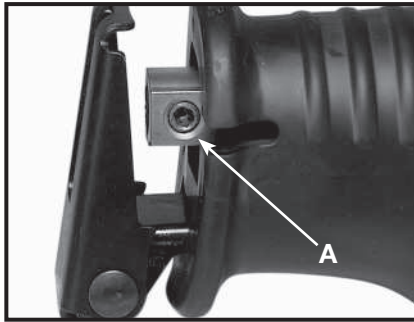

Fig. 1
1. Use hex wrench (supplied with **Model 745**), to loosen blade clamp screw (A) Fig. 1, by turning counterclockwise three to four turns.